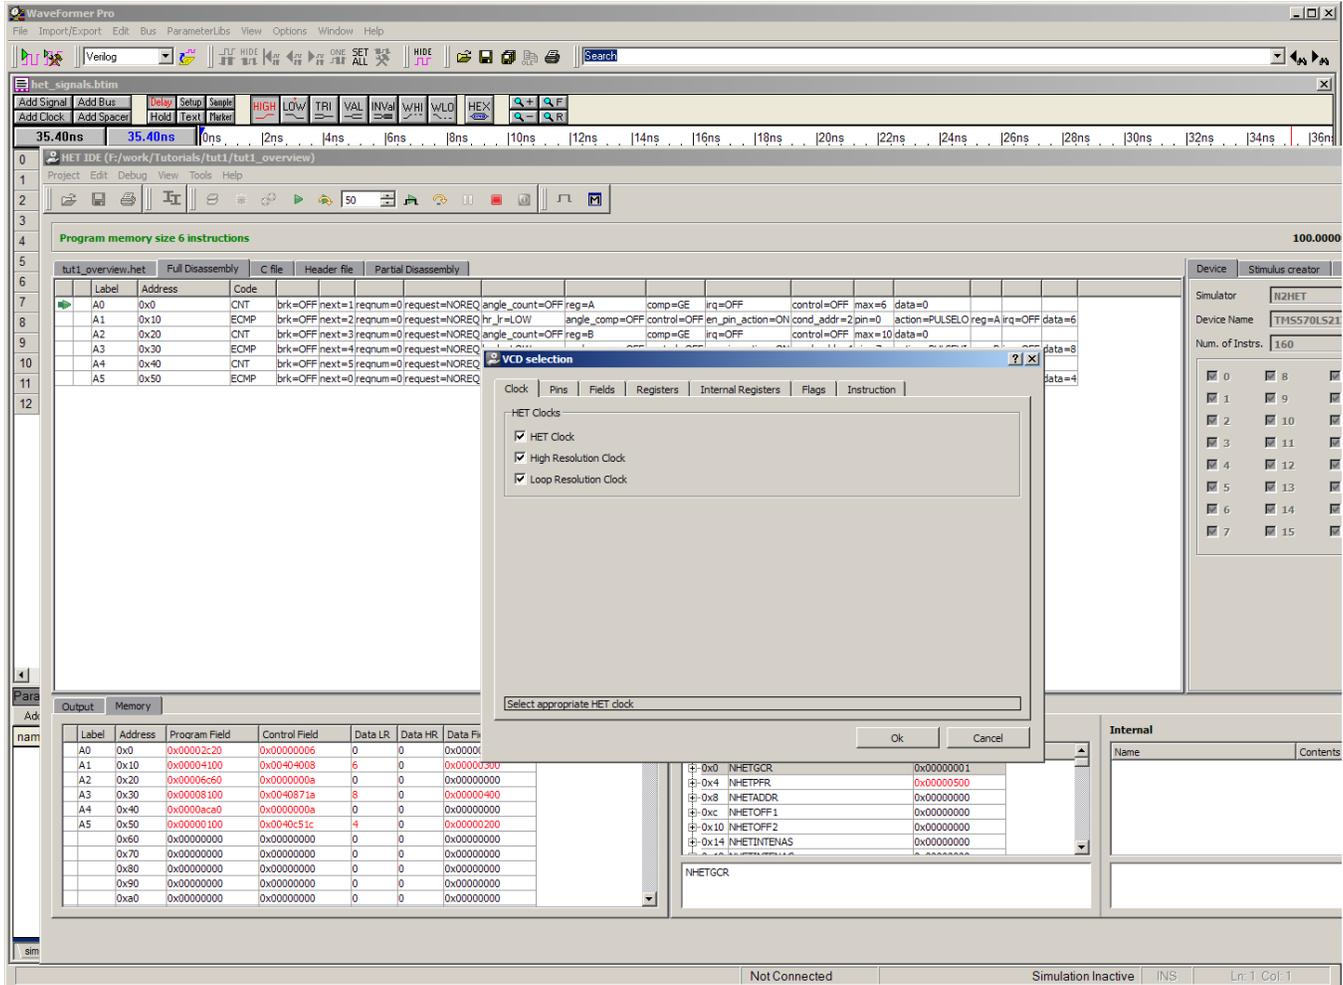

Figure 2. Waveform Wizard
- (a) In the HET IDE, click Tools → Waveform Wizard. Your screen should look like Figure 2.